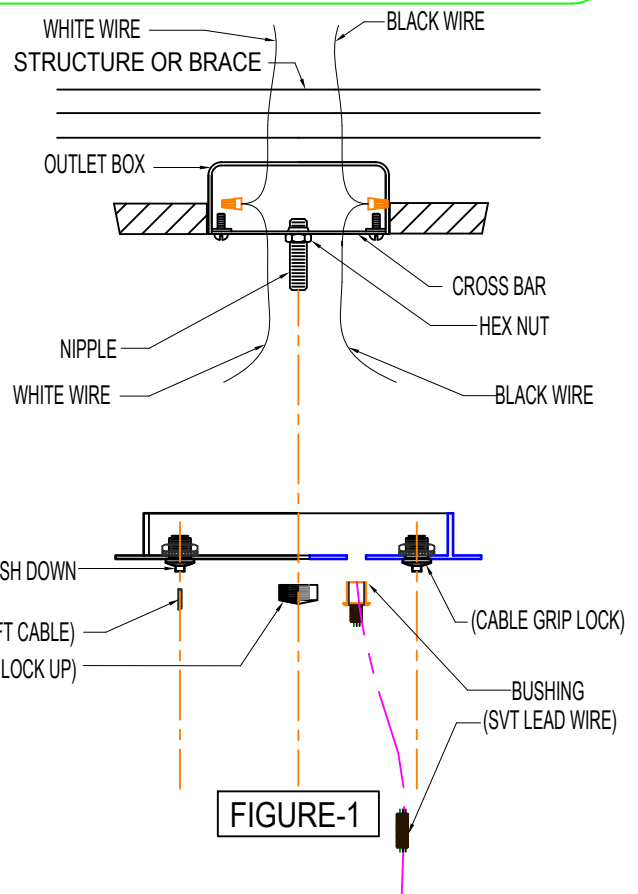

FIGURE-1
1. Insert the aircraft cable into the cable grip post of the canopy. Push the tab down on the cable grip and feed the aircraft cable. Repeat this step until you have insert all aircraft cable. (Refer Figure-1)
2. Insert the SVT wire to bushing. (Refer Figure-1)
5. Attach the mounting bracket to the outlet box using the mounting screws. (Refer Figure-1).